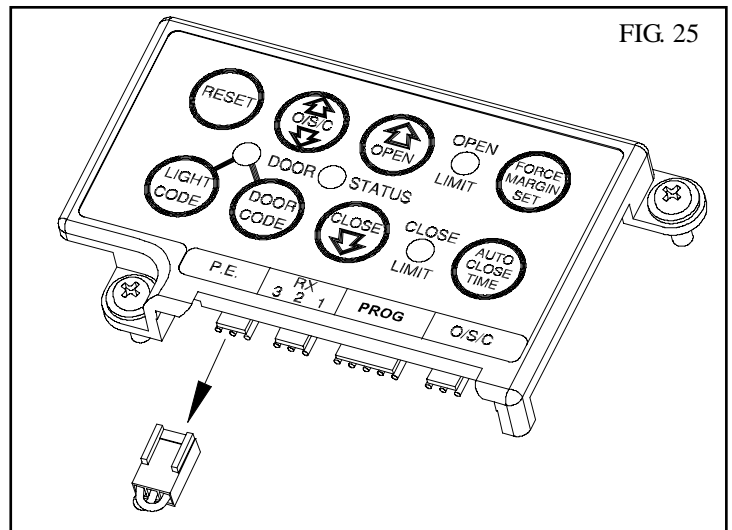
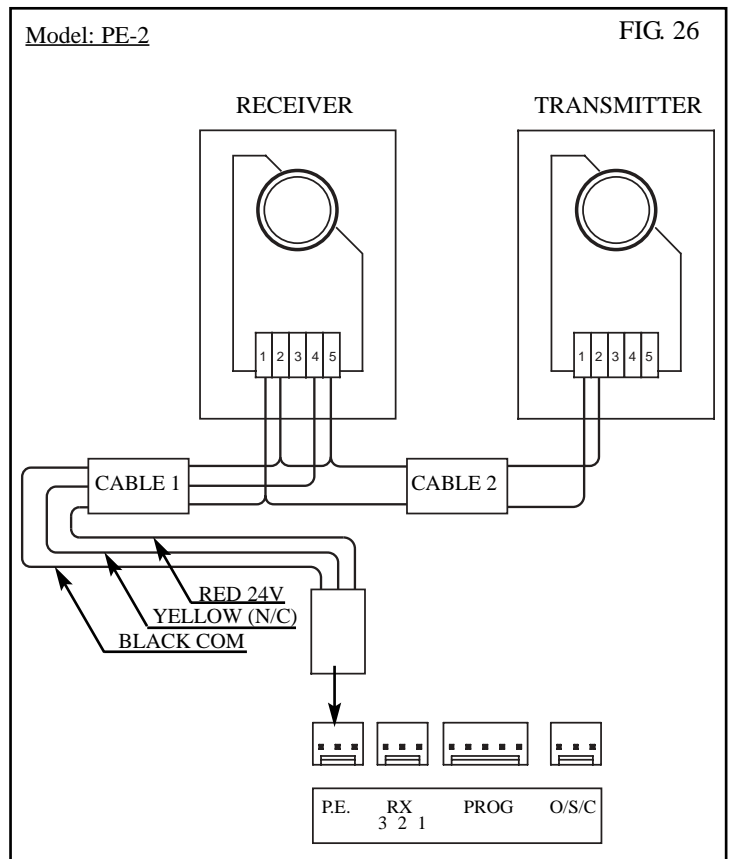

FIG. 25
FIG. 26
Locate the Photo Electric Beam (P.E.) normally closed contact type in a strategic location within doorway. We recommend 150mm above the floor level and as close as possible to the door opening, inside the garage. Remove shunt from P.E. connector (Fig. 25) and connect the plug from the P.E. wiring harness to P.E. connector (Fig. 26). The wiring diagram is for Model PHBE (Order Code 90214).
1. Press in and hold the Auto Close Time button (Fig. 25).
2. While holding in the Auto Close Time button, press the Open button (Fig. 25). Each press of this button will add one second to the auto close delay time.
4. Press the O/S/C button (Fig. 25) or transmitter to open the door. When the door is fully opened the Open Limit green LED will flash to indicate that the auto close mode is in operation. Break the path of the P.E. Beam momentarily, this will initialise the auto close mode. When the door reaches the fully opened position, the door will pause for the set auto close time and start to auto close.